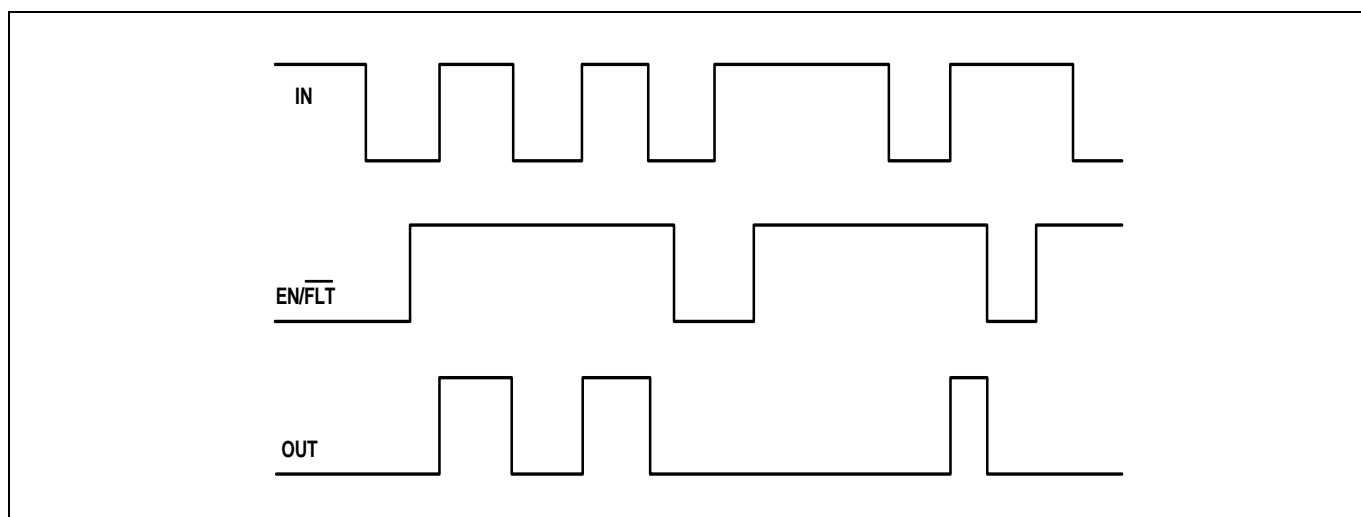

Figure 13 Input/output/enable pins timing diagram
The relationships between the input (IN), output (OUT) and enable ($\text{EN}/\overline{\text{FLT}}$) signals of the 1ED44175N01B are illustrated below in Figure 13.